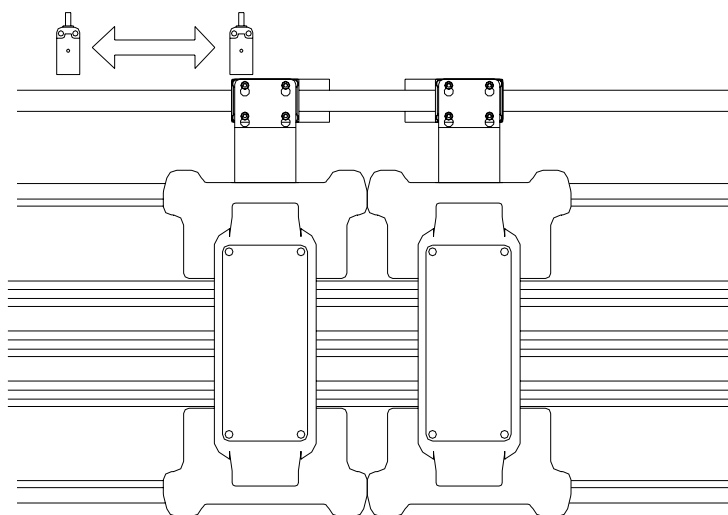

Fig.10-1 Combination & separation carriage
- ① Turn off power.
- ② Fig.10-1 is a top overview of carriages.
- ③ Loosen the four screws unconnected plate of driving belt, push the connecting-block to the direction of carriage to pass, then take off the connecting-block.
- ④ In separate situation , the interval of two knitting piece must be minimum 180 mm. ( Each 90 mm inactive area to left and right from the central needle. )
- ⑤ Move carriage to the marked position on belt, and replace the belt fixed connecting-block.
- ⑥ Move the left orange relay which is on the back of driving belt as follows.